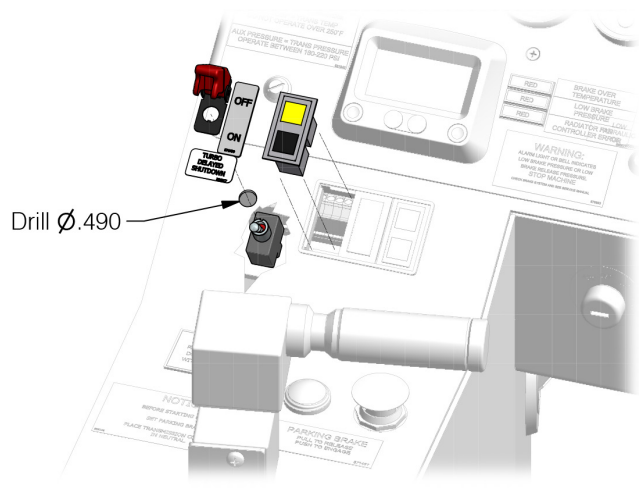

Figure 5 Install Switch, Light, and Decals
Step 5. Install the switch, light, and decals as shown in **Figure 5**. Remove existing blank for the switch as available on your machine.